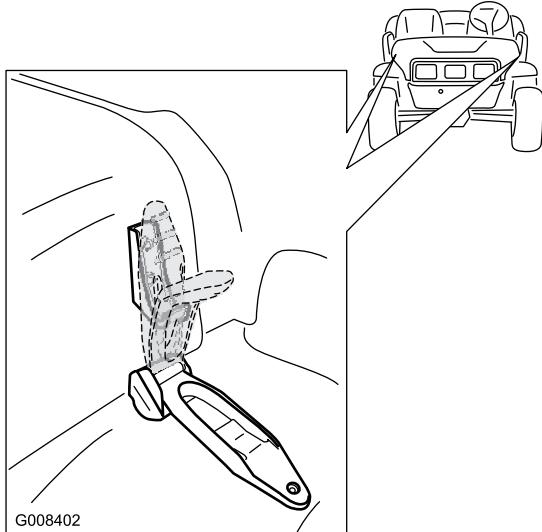

Figure 25
1. To open the hood, release the hood latches on both sides of the hood (Figure 25).